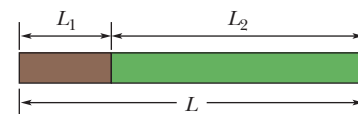

Figure 18-59 Problem 96.
**96** Figure 18-59 shows a composite bar of length  $L = L_1 + L_2$  and consisting of two materials. One material has length  $L_1$  and coefficient of linear expansion  $\alpha_1$ ; the other has length  $L_2$  and coefficient of linear expansion  $\alpha_2$ . (a) What is the coefficient of linear expansion  $\alpha$  for the composite bar?